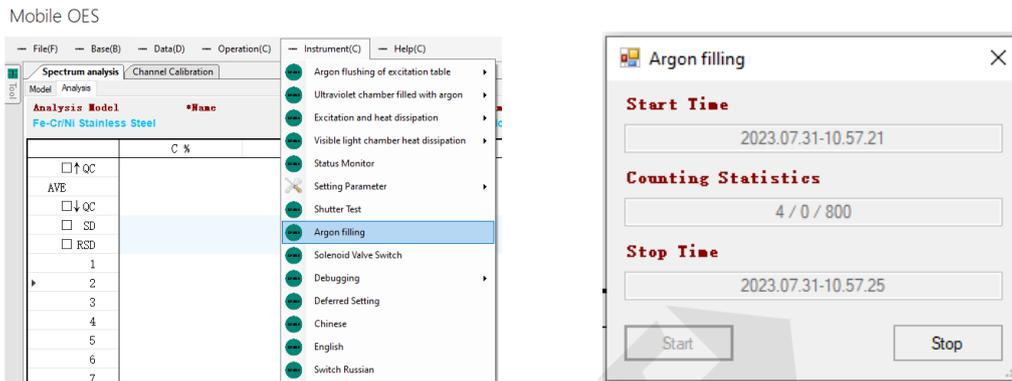

Figure 4-9 Argon filling
Step 2 Click “Argon Filling” of “Instrument” in the software menu bar, open the argon gas valve, and wait for 800 seconds for argon filling, as shown in Figure 4-9: